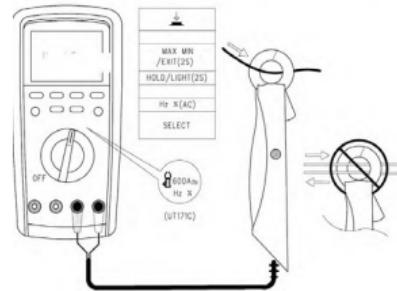

Fig. 11
9. Measurement with 60A/600A external current clamp (see Fig. 11)
Press "RANGE" for 60A/600A range switching, press "SELECT" to select the AC/DC current clamp measurement function (see Fig. 11), and use the current clamp provided as accessory and connect it for measurement as shown.